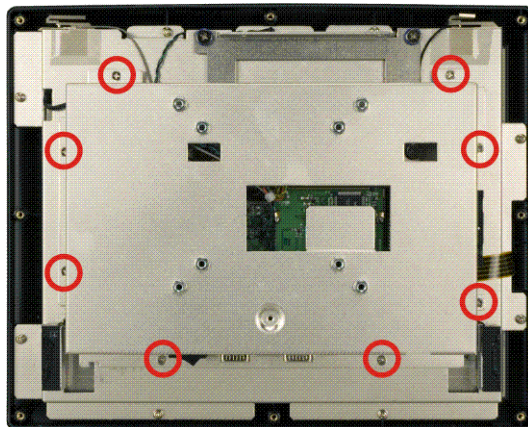

Figure 3-5: AFL-12A-LX Aluminum Back Cover Retention Screws
Step 2: Remove the eight retention screws securing the internal aluminum cover (Figure 3-5).